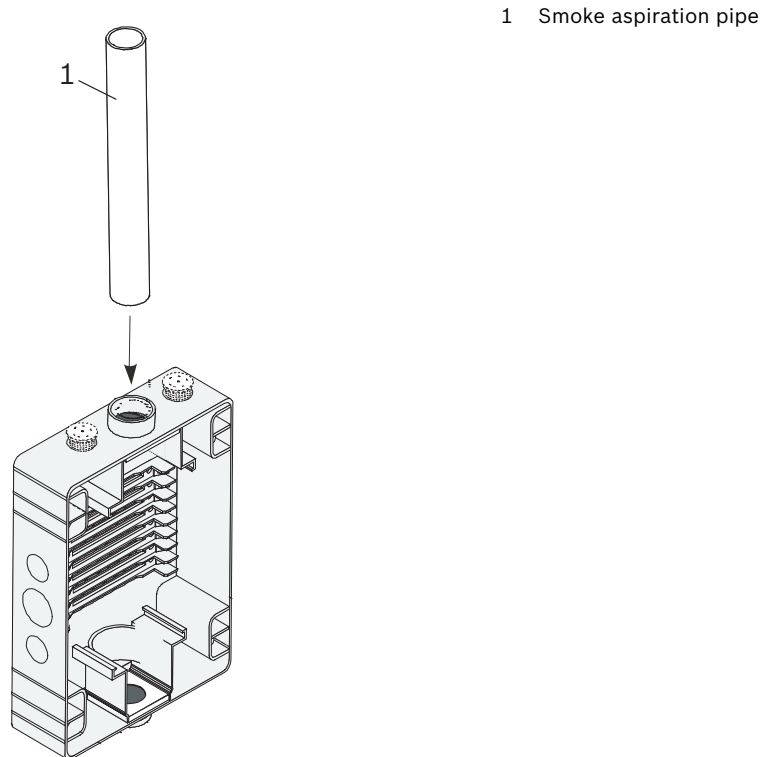

Figure 4.5 Connecting the aspiration pipe to the FAS-420-TM Aspirating Smoke Detector
3. To connect the aspiration pipe to the FAS-420-TM, insert it into the pipe connection provided (see *Figure 4.5*).